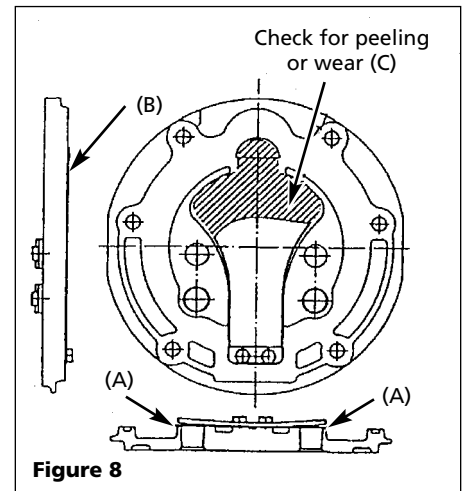

Figure 8
1. Check if exhaust valve (A) sticks to seat or is damaged (See Figure 8).
2. Check if there is breakage, gouge or damage to appearance of intake valve (B).
3. Lift intake valve by 10 mm and check if there is peeling and wear on coating surface of valve spacer (C).